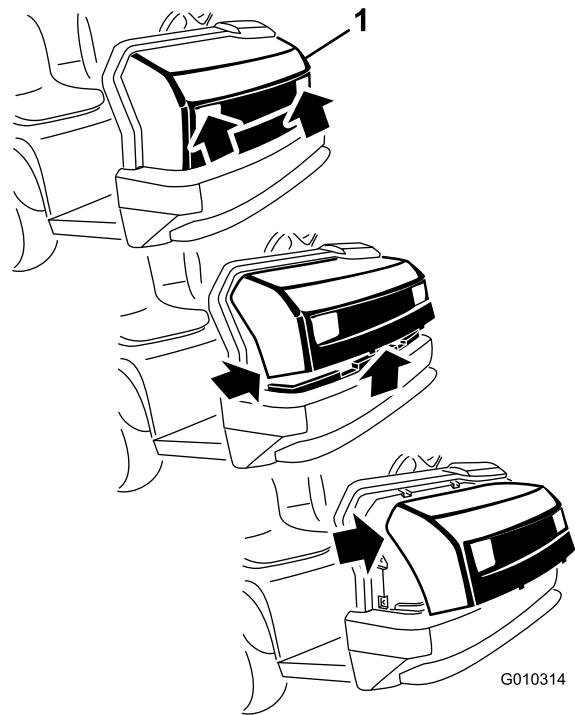

Figure 5
2. Pivot the bottom of the hood upward until the top mounting tabs can be pulled from the frame slots (Figure 5).
3. Pivot the top of hood forward and unplug the wire connectors from the head lights (Figure 5).
1. While grasping the hood in the headlight openings, lift up on the hood to release the lower mounting tabs from the slots in the bumper (Figure 5).